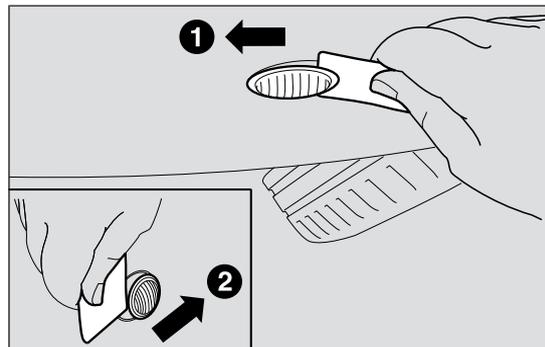

fig. 112
- lever the lens off, by initially applying force from the front towards the back (1 - fig. 112);
- then lever in the opposite direction, by applying force from the back part (2 - fig. 112) and remove unit B;